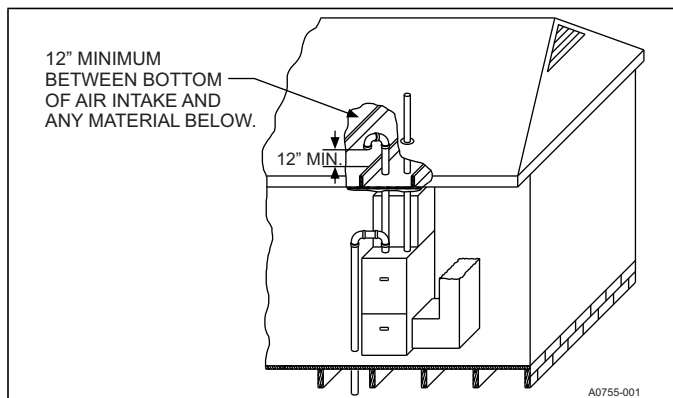

FIGURE 33: Attic and Crawl Space Combustion Air Termination
- **VENTILATED COMBUSTION AIR:** Combustion air is supplied through a PVC or ABS pipe that is connected to the PVC coupling attached to the burner box and is terminated in a ventilated attic or crawl space. The combustion air and the vent pipes are not terminated in the same atmospheric zone. See Figure 33 for attic and crawl space termination. Only the combustion air intake can terminate in the attic. The vent must terminate outside.